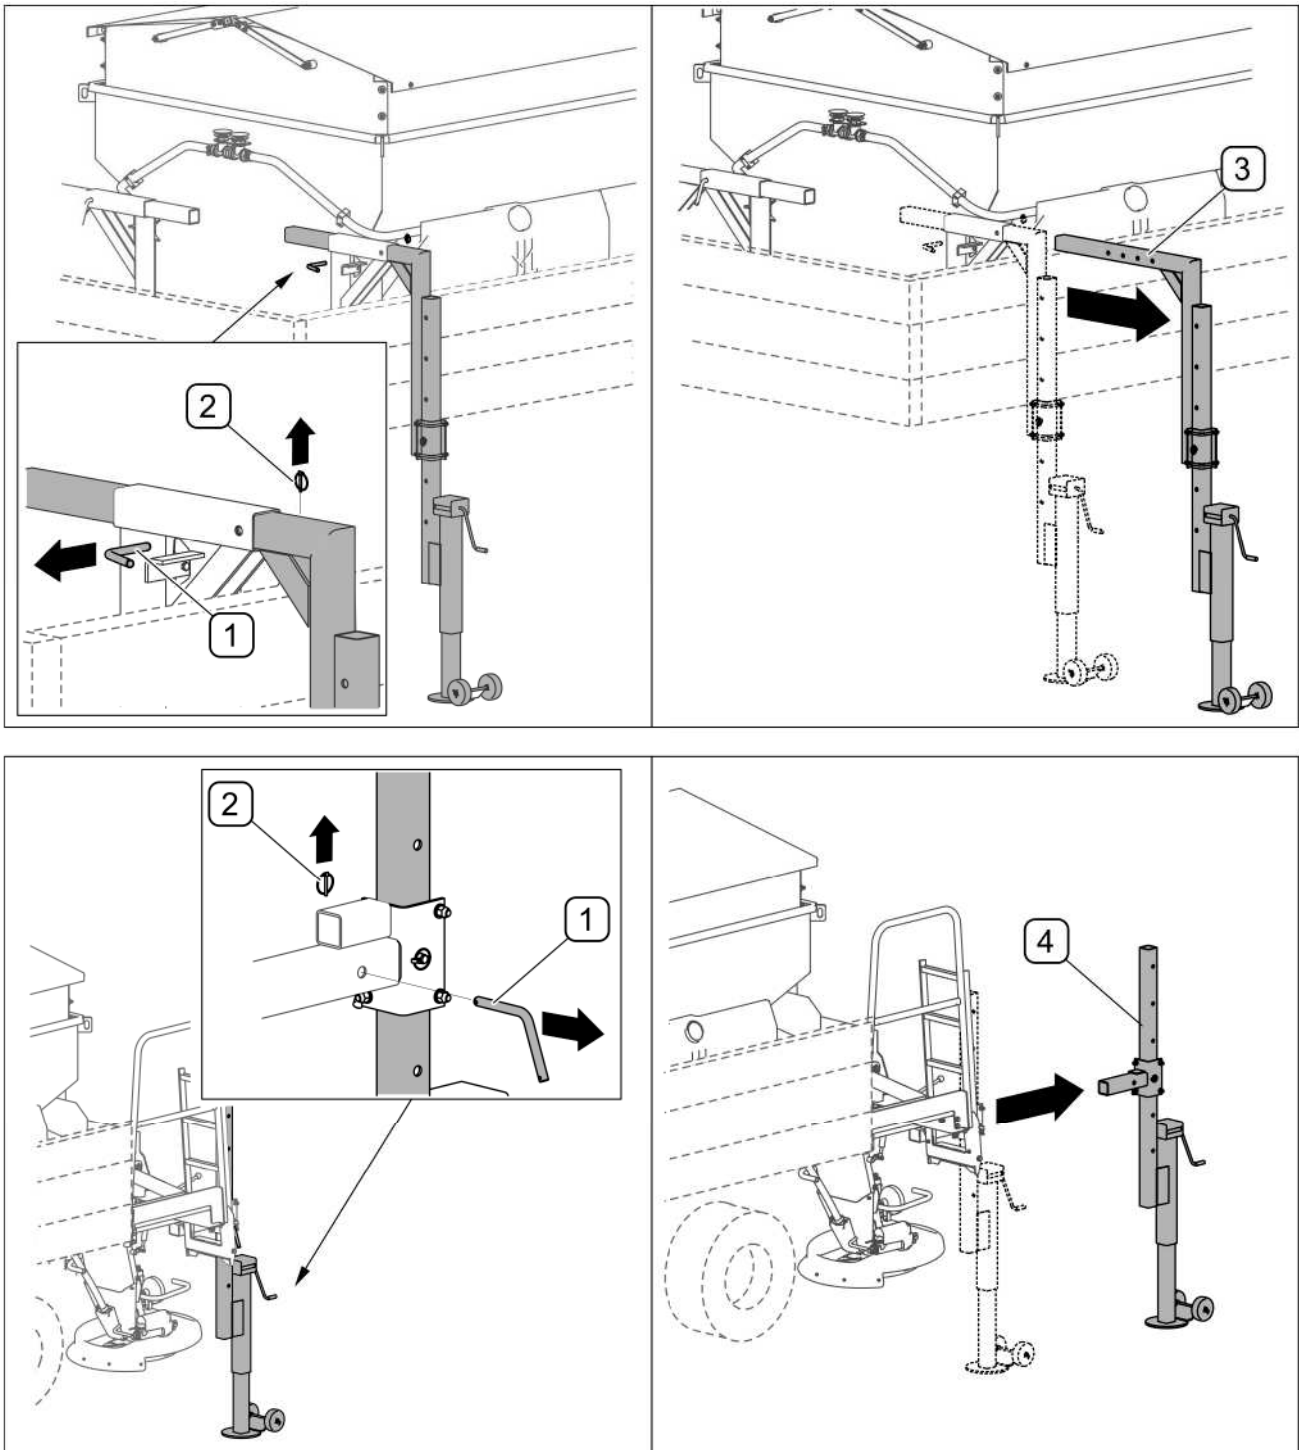

FIG. 4.2 Dismantling the parking stands
- When the machine is fully supported on the load platform, remove linchpins (2) and pins (1) that secure stands in guides (FIG. 4.2).
- Dismantle front stands (3) and rear stands (4) and keep them for further use.